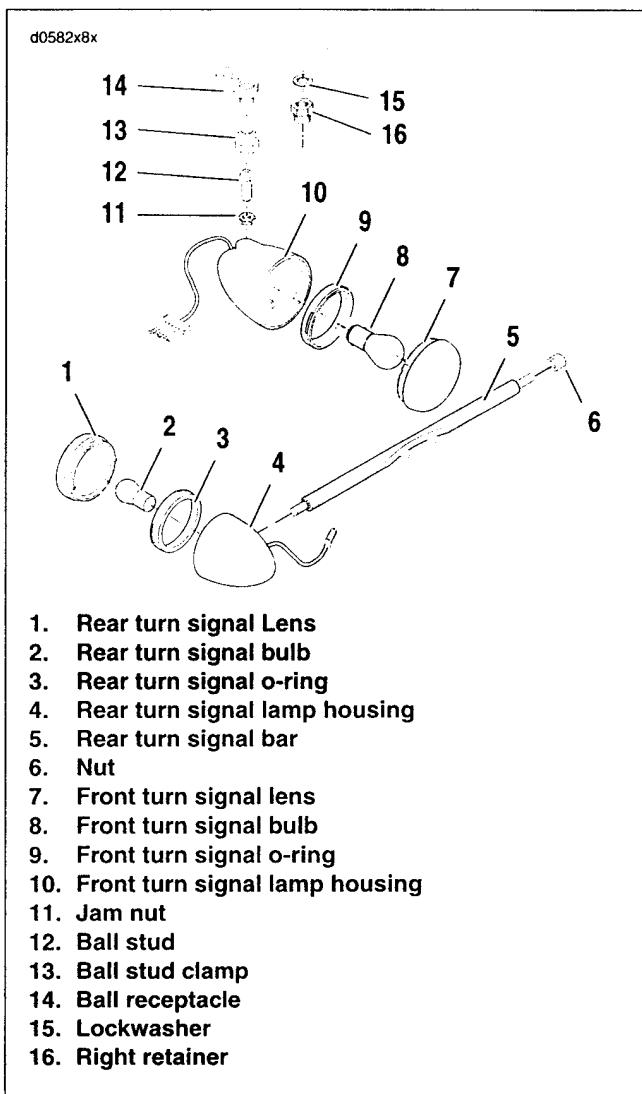

Figure 8-40. FXDXT Turn Signals
1. See Figure 8-40. Front turn signals: On right side, hold right retainer (16) and loosen ball stud clamp (13) to remove turn signal. On left side, remove acorn nut from mirror, loosen jam nut (11) and remove ball stud clamp (13) to detach turn signal.
2. See Figure 8-40. Rear turn signals: Loosen nut (6) and unscrew rear turn signal lamp housing (4) from turn signal bar (5).